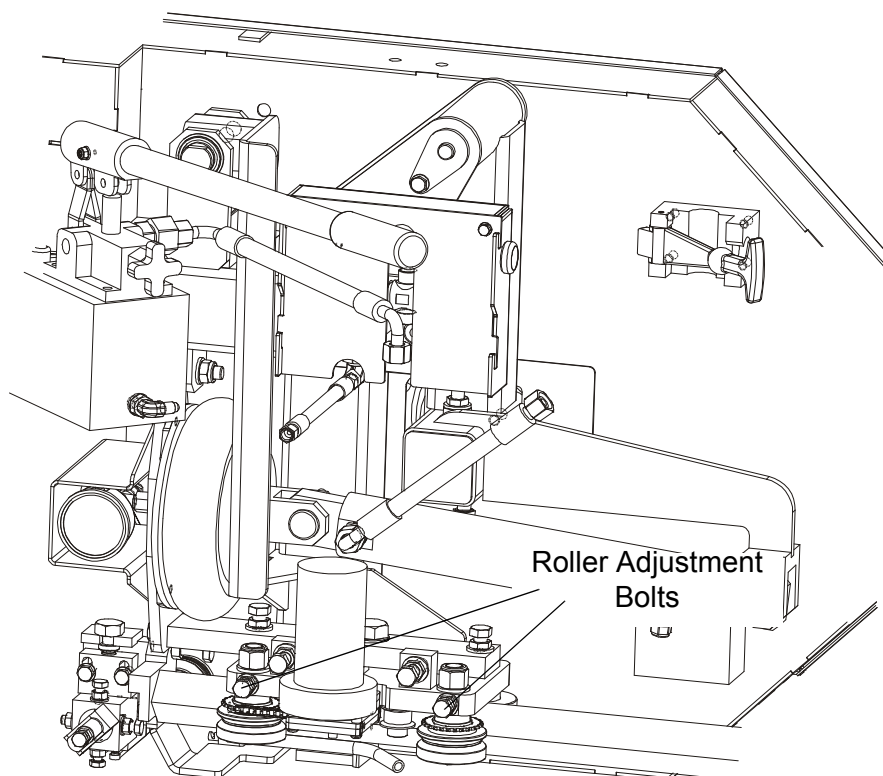

FIG. 5-27
**See Figure 5-27.** Loosen the jam nuts and turn the adjustment bolts in to tighten the blade guide arm